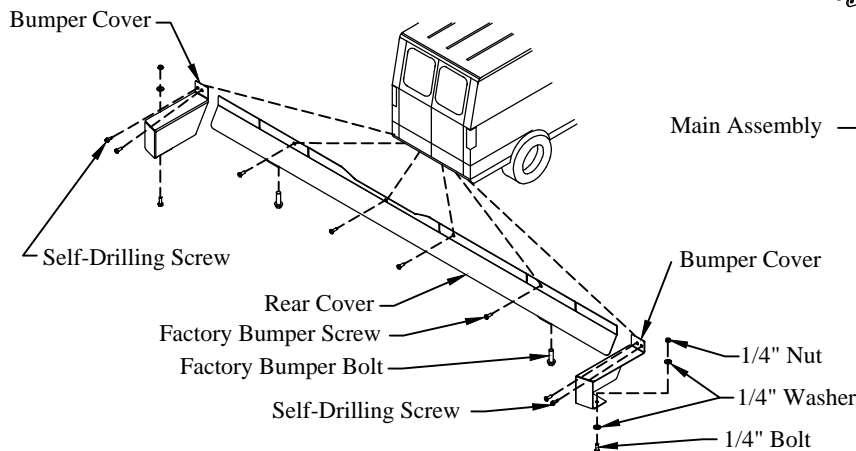

Figure 10: Rear cover hardware location.
8. **Install** the rear cover on the rear of the van (Figure 10).
9. **Install** the left and right bumper covers. Use the supplied #12 self-drilling screws, 1/4" bolts, washers, and nuts, and factory bumper screws (Figure 10).